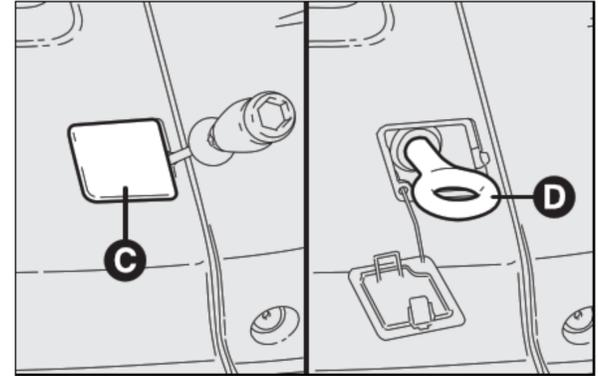

fig. 48
- take the screwdriver from the tool compartment and lever in the point shown to raise the cap **C-fig. 48**;
- Take the tow ring **D** from the tool compartment and screw it on the threaded pin **fig. 48**.